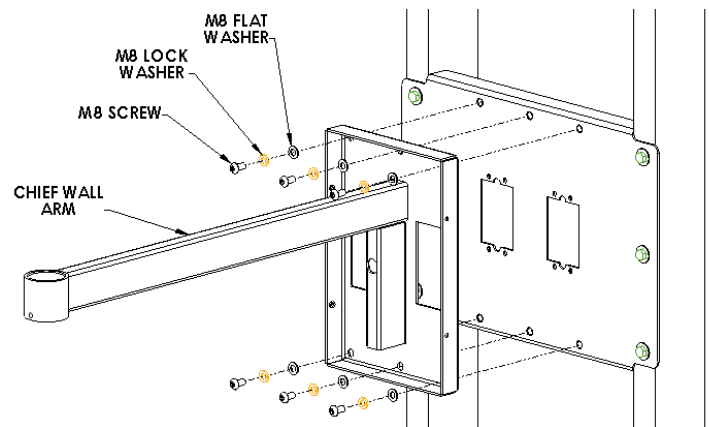

Figure 3. Attach Wall Arm to Wall Plate
1. Locate the wall arm, six M8 flat washers (40), six M8 lock washers (50), and six M8 x 16mm button head screws (60). See Figure 3.
2. Attach wall arm to wall plate (10) as follows:
- a. Using the parts (40, 50, and 60) described in step 1 in the top mounting holes, attach the wall arm to the wall plate (10).
- b. Using the parts (40, 50, and 60) described in step 1 in the bottom mounting holes, attach the wall arm to the wall plate (10).
- c. Using the M5 Allen key (70), tighten the six M8 x 16mm button head screws (60) to secure the wall arm to the wall plate (10).